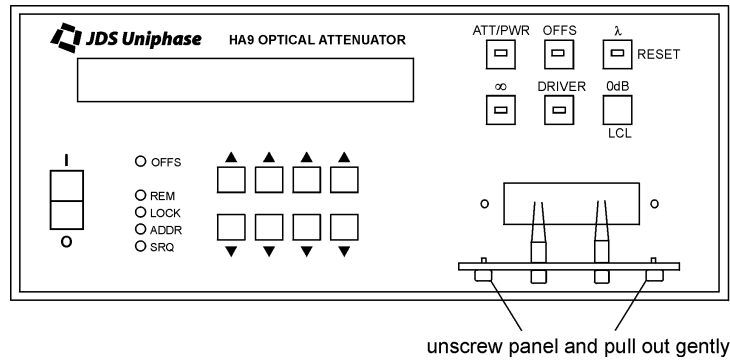

Figure 12: Removing the Connector Panel
2. Pull the panel out carefully, extending it no more than 10 cm (4 in) from the body of the attenuator (Figure 12).